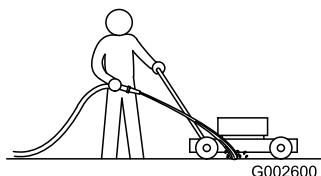

Figure 35
1. With the engine running on a flat paved surface, spray a stream of water in front of the **right** rear wheel (Figure 35).